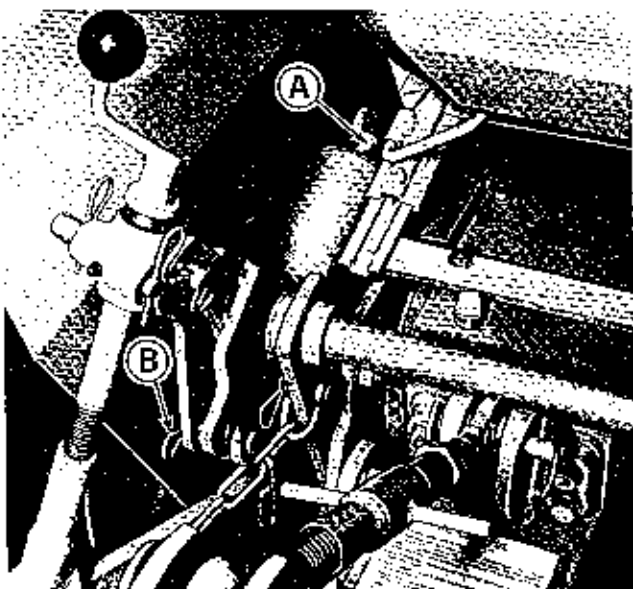

Figure 14. Removing the hydraulic cylinder.
2. See figure 14. Remove the spring clips and pins at (A) and (B).